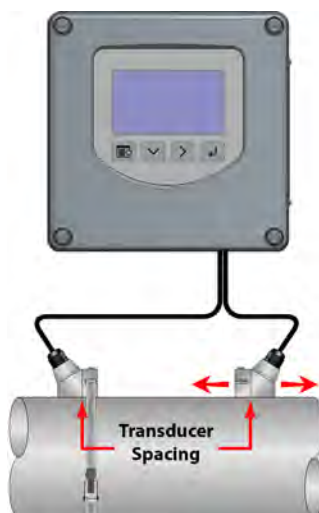

Figure 9: Transducer positioning
5. Place the downstream transducer on the pipe at the calculated transducer spacing. See *Figure 9 on page 9*. Apply firm hand pressure.